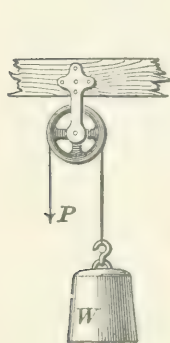

FIG. 28.
71. A **fixed pulley** is one whose block is not movable, as in Fig. 28. In this case, if the weight W be lifted by